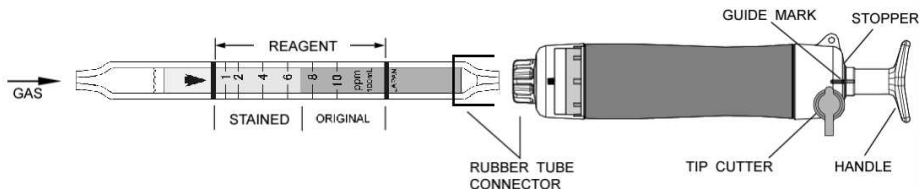

Fig.1
- ② Insert the detector tube into the aspirating pump securely as shown in Fig.1. (Arrow mark shall point to the pump.)
- ③ Align the guide marks on the shaft and stopper of the aspirating pump.
- ④ Pull the pump handle at a full stroke until it locks and wait for 1 minute or until the completion of sampling is confirmed with the flow indicator of the pump. (See descriptions about the flow indicator in the instruction manual of the pump.)
- ⑤ On completion of sampling, read the scale at the maximum point of the stained layer.
- ⑥ When the concentration is over the scale range, a 1/2 pump stroke can be used to determine concentrations of 2 to 20 ppm. Then multiply the reading value by 2.
- ⑦ When the concentration is below the 2ppm, 2 pump strokes can be used to determine concentrations of 0.5 to 2 ppm. Then multiply the reading value by 0.5.